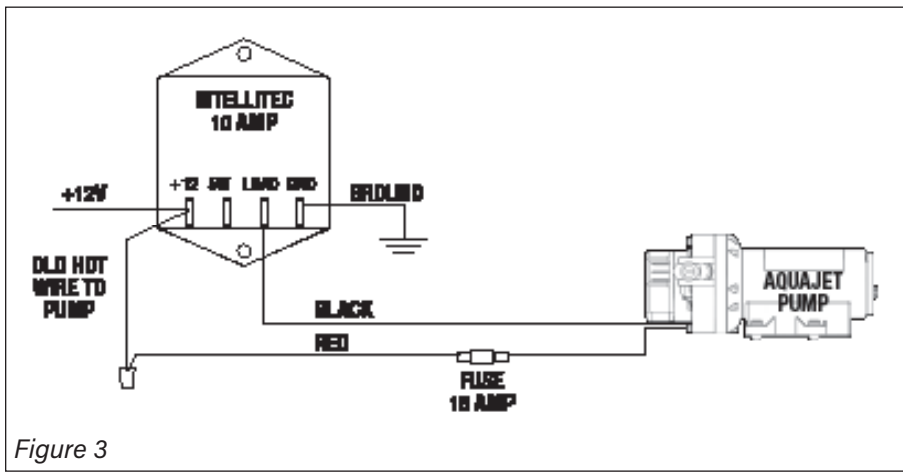
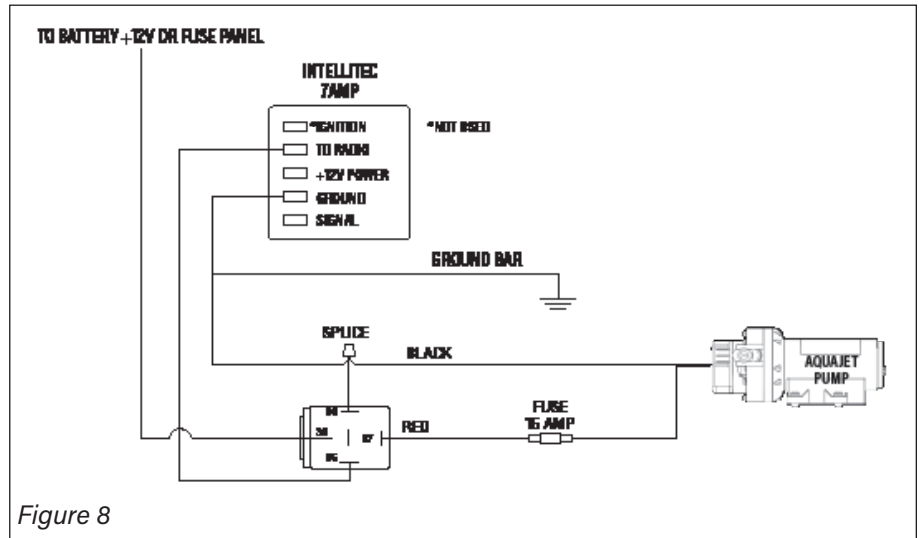

Figure 3
Figure 8
- b. Procure a 40 Amp rated relay (through either a local automotive store or directly through the Remco catalog, product number 20-267-6040-REM) to augment your existing controller. Please refer to Figures 3 & 4, page 5 and Figure 8, page 6.
1. Determine whether or not your existing wiring can supply 6.5 Amps to the Aquajet ES without generating an excessive voltage drop or overloading any control component. You should check specifically for three (3) things:
- a. Determine whether your RV is currently using an Intellitec pump controller. The Aquajet ES Series is compatible with most common rated versions (7 Amp, 10 Amp, 15 Amp). However, if you have either a 3 Amp or non-rated controller, you should procure a 40 Amp rated relay to augment your existing controller. These 40 Amp relays are available through local automotive stores or through Remco directly (P/N 20-267-6040-REM). If necessary, refer to Figure 8, page 6 for additional information.